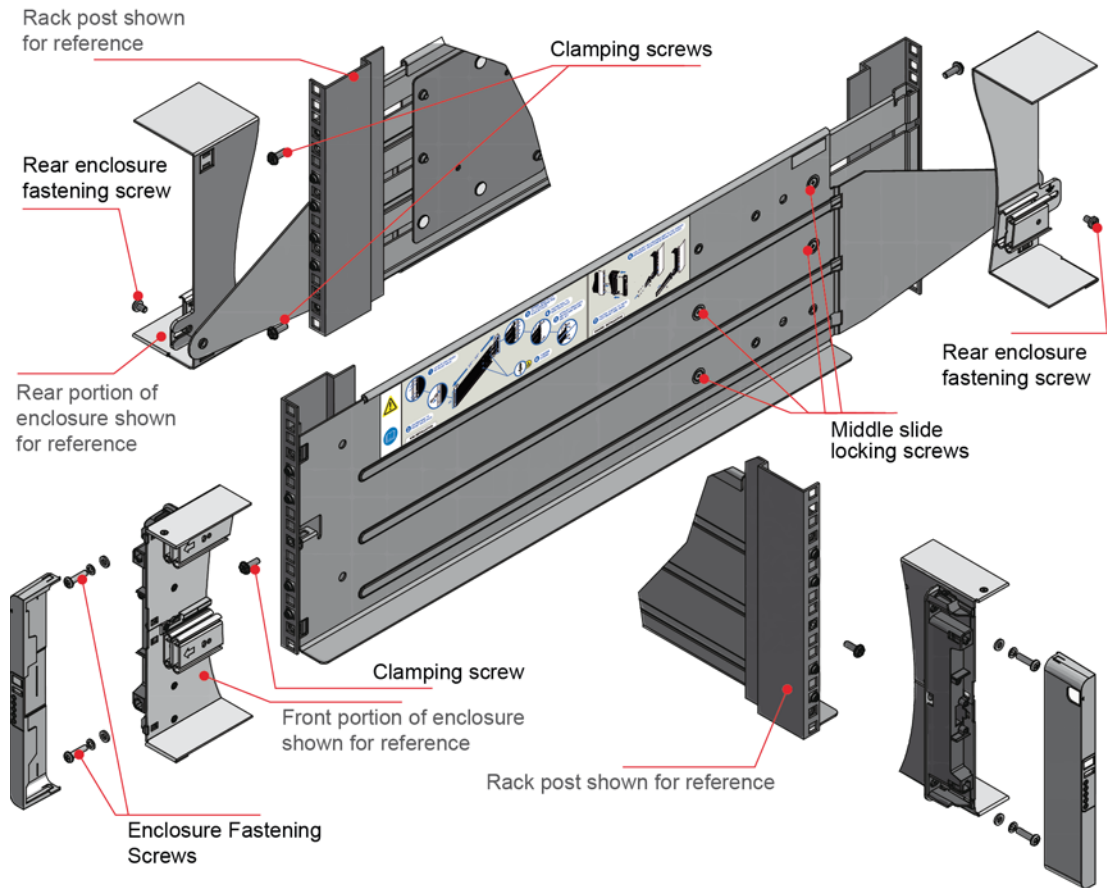

Figure 3–2 Mounting the System into a Rack (left hand rail only shown for clarity)
- 7 Fasten the front of the enclosure using the enclosure fastening screws (x4) as shown in Figure 3–2.